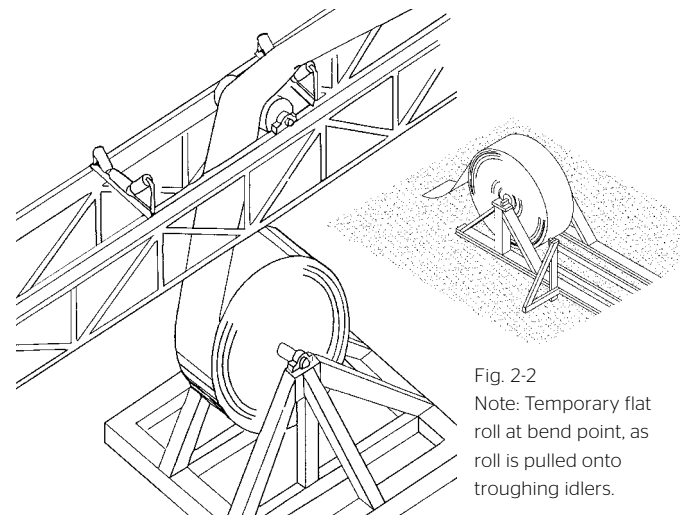

Fig. 2-2
6. Fig. 2-2 illustrates a suitable method of mounting a belt with the carrying side out and leading off the top of the roll when pulling onto the troughing idlers.